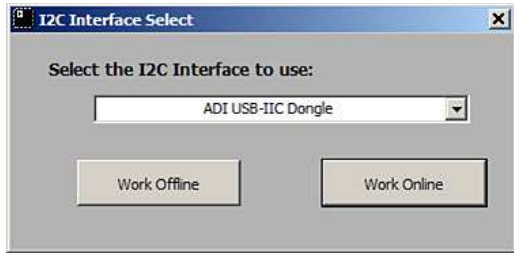

Figure 7. I²C Interface Select
3. Run the GUI ADM106x and ADM116x SuperSequencer evaluation software, and select the appropriate I²C interface, then click **Work Online** as shown in Figure 7.